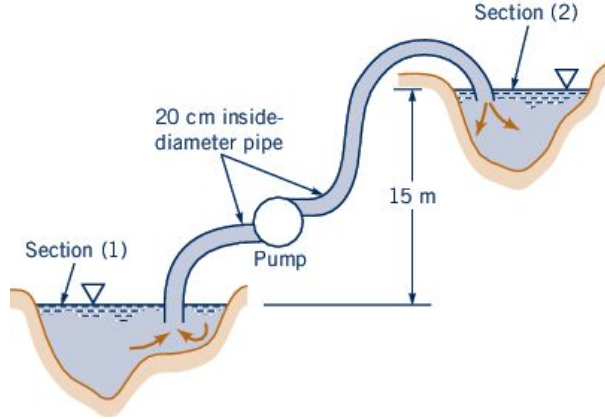

Figure 12: See problem 6.
**Problem:** Water is to be moved from one large reservoir to another at a higher elevation as indicated in Figure 12. The loss of available energy associated with  $Q = 0.07 \text{ m}^3/\text{s}$  pumped from section (1) to (2) is loss  $l = (61 \bar{v}^2/2) \text{ m}^2/\text{s}^2$ , where  $\bar{v}$  is the average velocity of water in the 20 cm inside diameter piping involved.